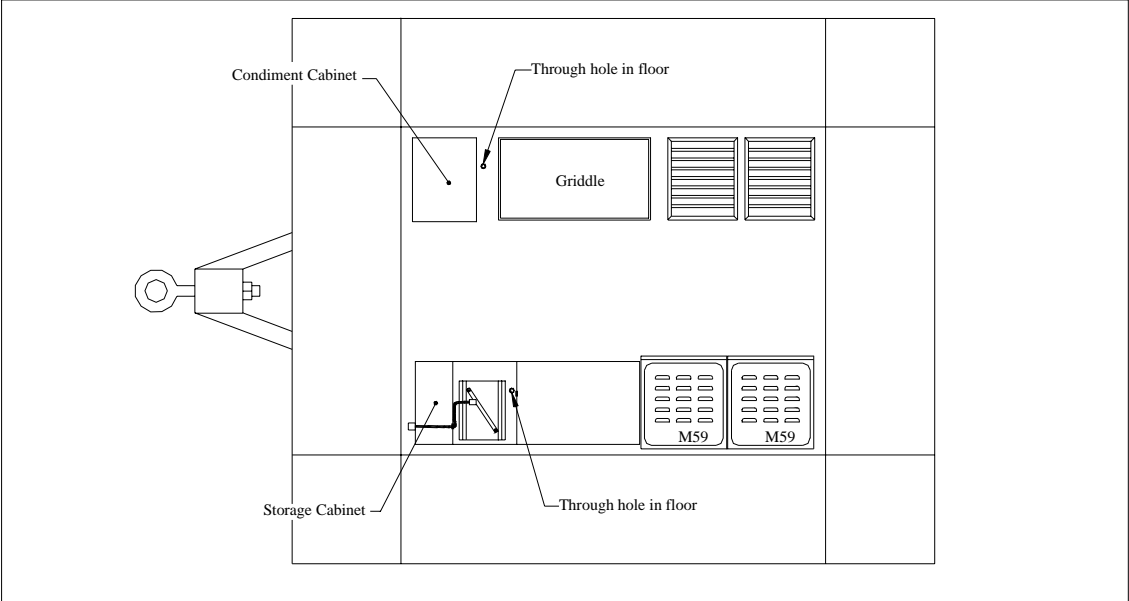
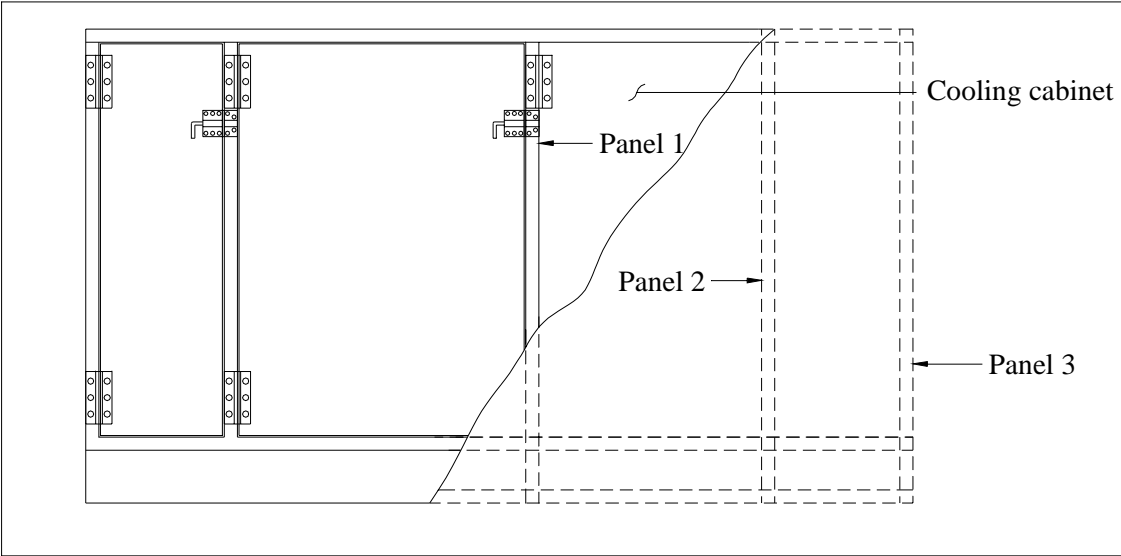
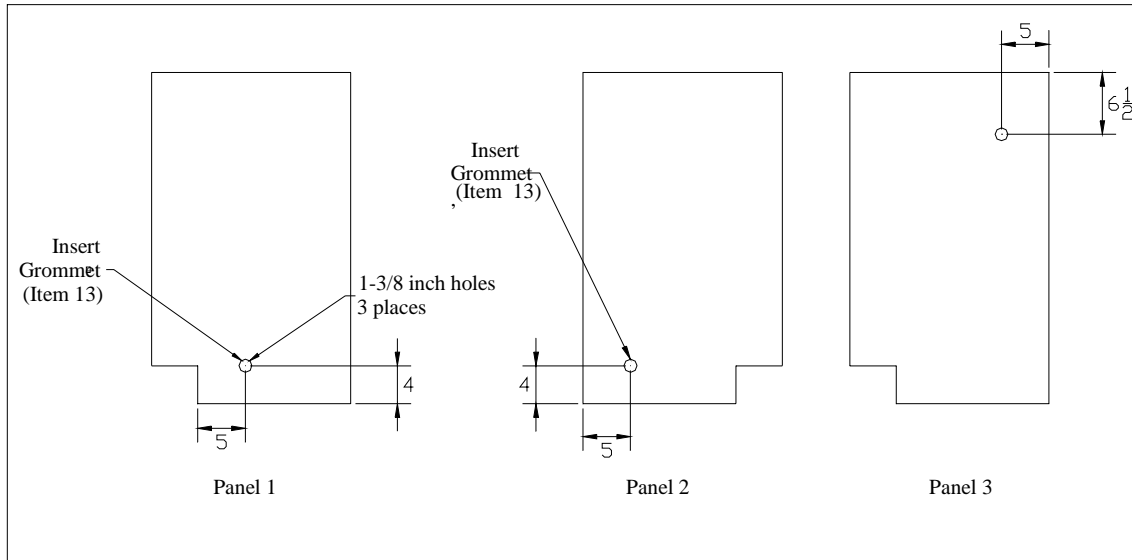
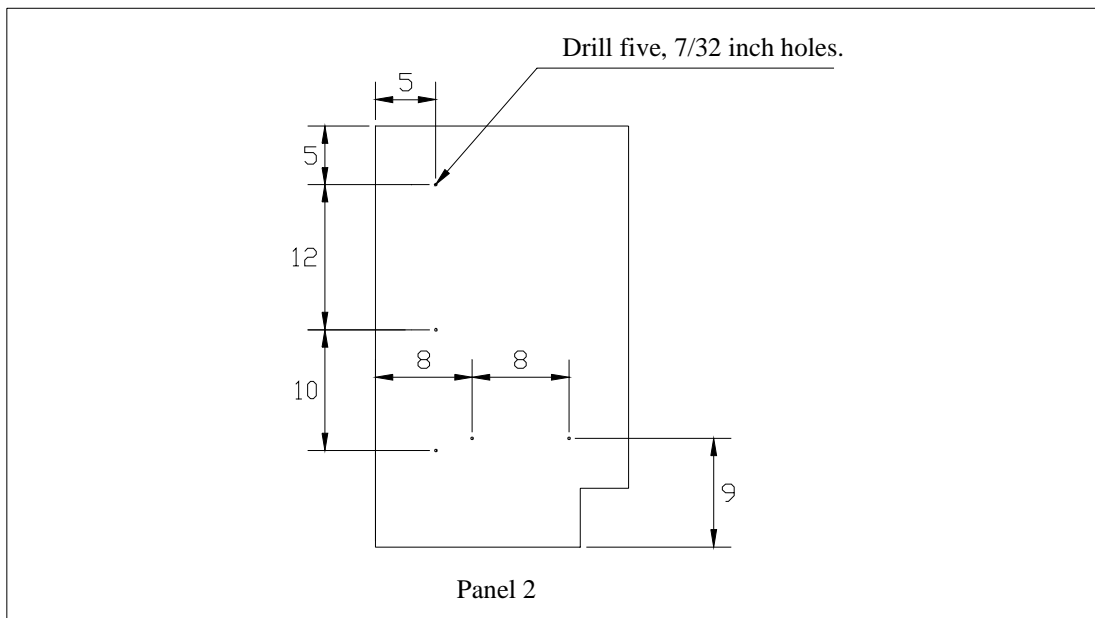

Figure 1. Location of cabinets and holes in MKT platform.
Figure 2. Location of storage cabinet panels.
Figure 3. Location of cable pass through holes in storage cabinet panels.
Figure 4. Location of cable clamp mounting holes in storage cabinet panel.
1) Drill 1-3/8 inch holes in the three aluminum panels of the storage cabinet. Refer to Figure 1 for the storage cabinet location, Figure 2 for the panel locations, and Figure 3 for the hole location in each panel and insert a grommet (Item 13) into the holes in panels 1 and 2.
2) From inside the cooling cabinet (Figure 2), drill five, 3/16 inch holes in panel 2. See Figure 4 for hole locations. These holes will be used for mounting cable clamps in step g.
1) Remove the condiment cabinet from the passenger side of the MKT by lifting it straight up to clear the brackets that hold it in place. See Figure 1 for condiment cabinet location.